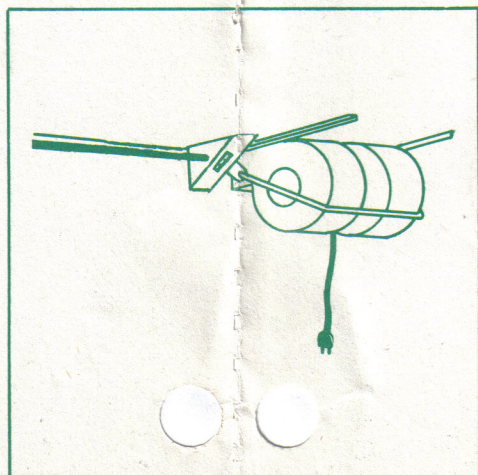

Fig. 8
1. Insert power unit into hood with discharge opening pointing to back wall. (Fig. 8)
3. Bring mounting strap into place in dimples on blower housing. (Fig. 8)